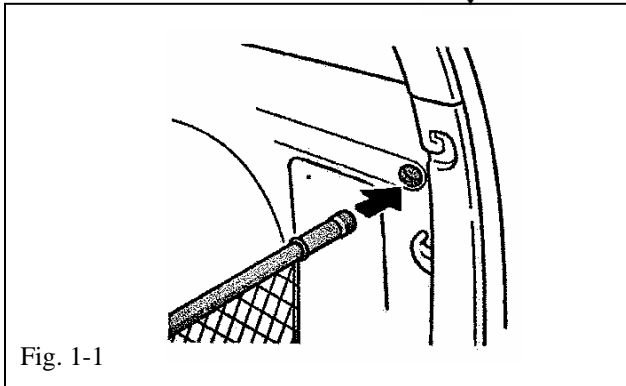

Fig. 1-1
- (a) Open vehicle rear cargo door and locate the Cargo Net Tray mounting points on the passenger side of the cargo compartment. (Fig. 1-1)
- (b) Insert right end of front bar (without label) into pocket in passenger side trim panel. (Fig. 1-1)